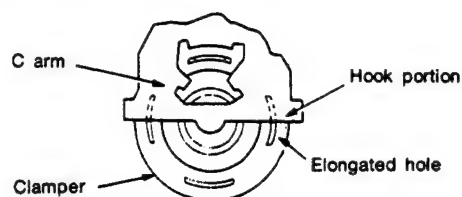

Fig. 6
## (7) Replacement of the clammer (Fig. 6)